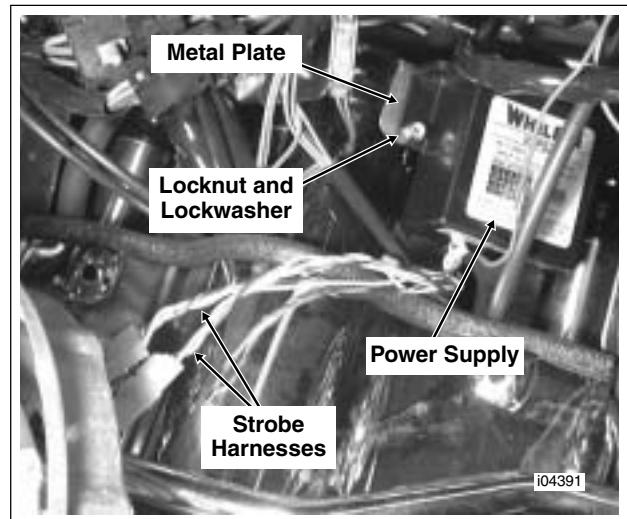

Figure 8-8. Mount Strobe Power Supply (FLHTP)
- b. See Figure 8-8. Obtain the power supply (with wiring), screw, lockwasher and locknut from kit. Position the power supply, so that the mounting hole on the left side is aligned with the hole in the metal plate.